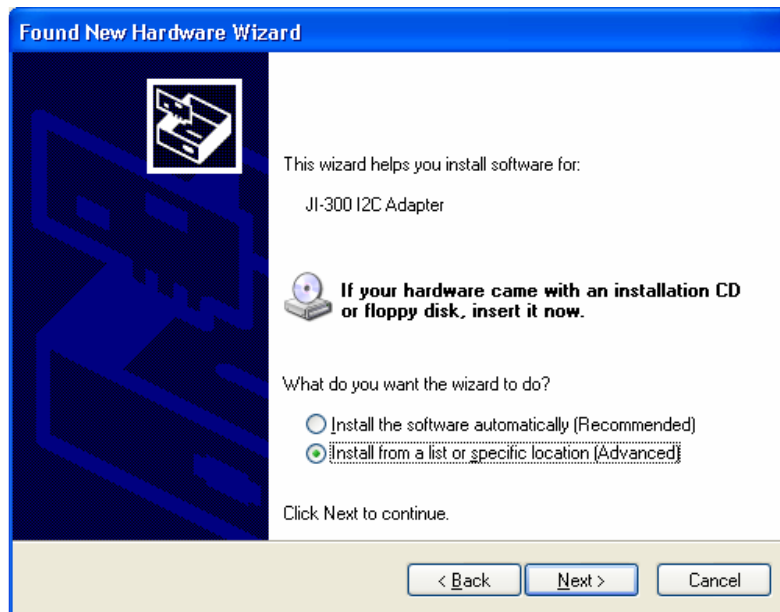

Figure 22. Found New Hardware Wizard Window #2
6. At the “Found New Hardware Wizard” window (Figure 22), select “Install from a specific list or location (Advanced)”, and then click “Next”.